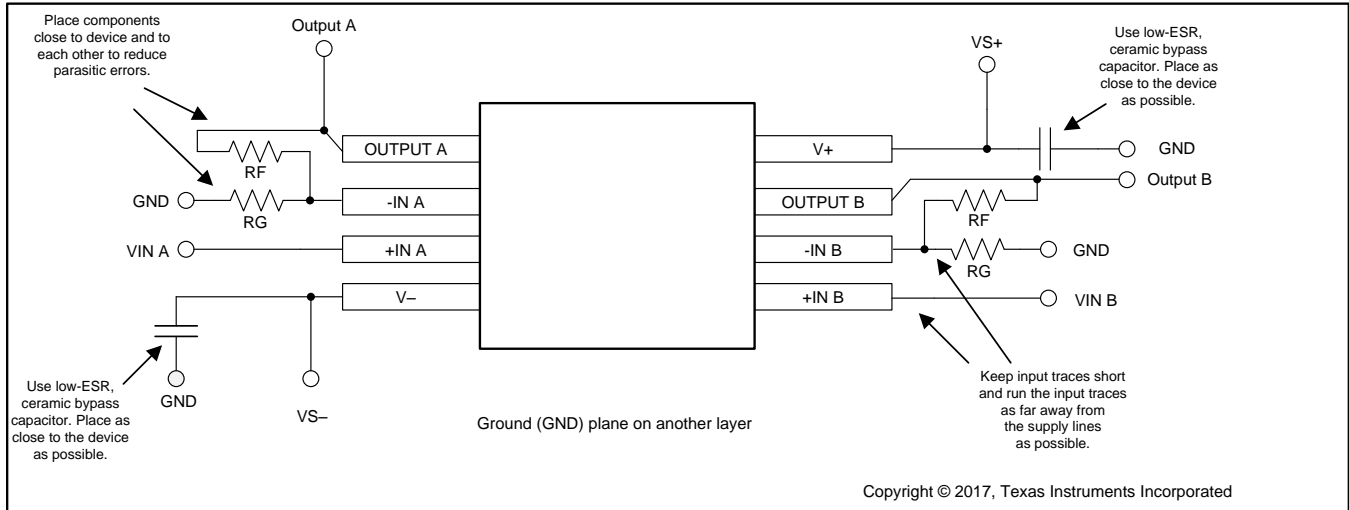

图 47. Operational Amplifier Board Layout for Noninverting Configuration
- Place the external components as close to the device as possible. As illustrated in 图 47, keeping R_F and R_G close to the inverting input minimizes parasitic capacitance.